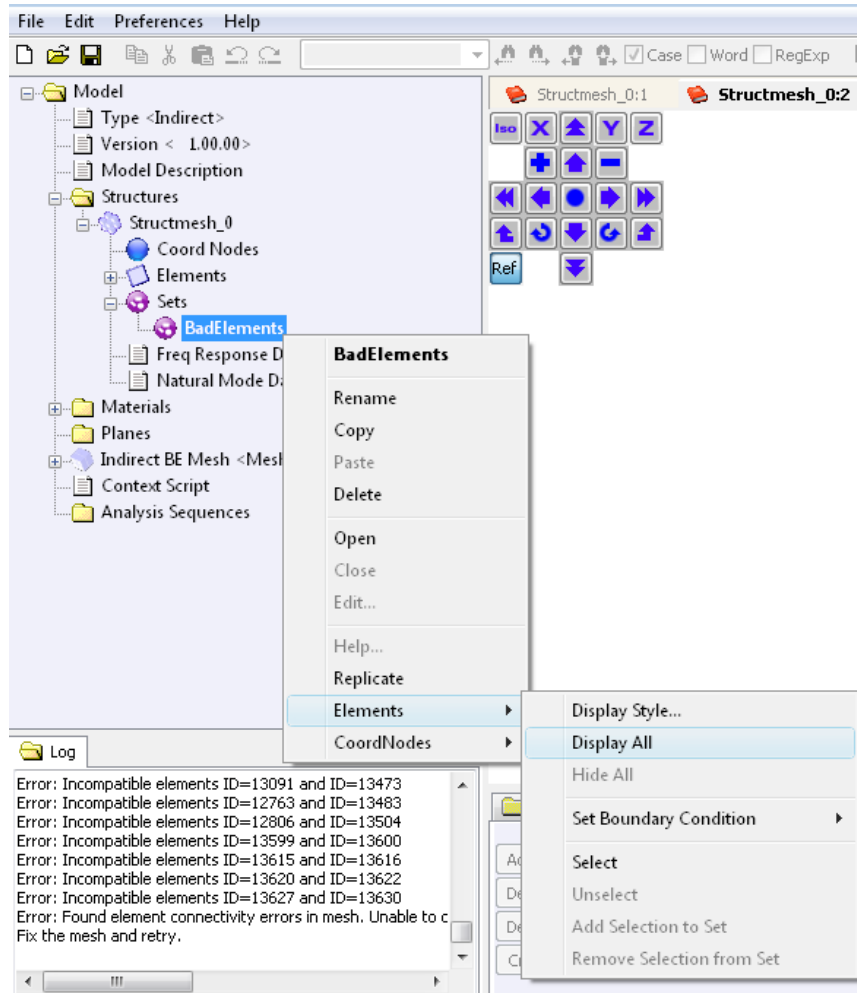

Figure 5.36 Display Set of Bad Elements.
- Now display only Bad Elements to start fixing them. Go to **Structures** → *<Structure Mesh Name>* → **Sets** → *<Bad Elements Set>* and right-click to select **Elements** → **Display All**. (Figure 5.36)